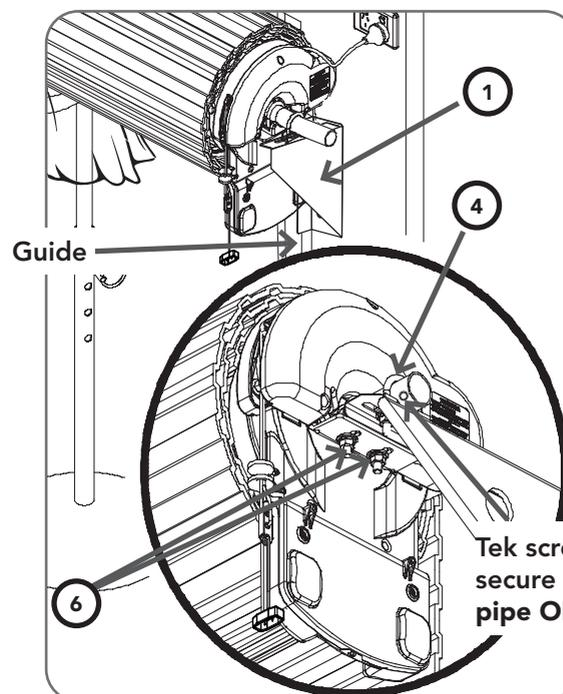

Fig. 4.1
- Place the hanger bracket (1) next to the door guide and mount to the wall using 4 x hex head screws (5).
- Lift up and over the door hanger bracket (1) position the door onto the bracket.
- Fit the U-bolt (4) supplied with the extension kit and tighten with nuts and bolts (6) (**Fig 4.1**).